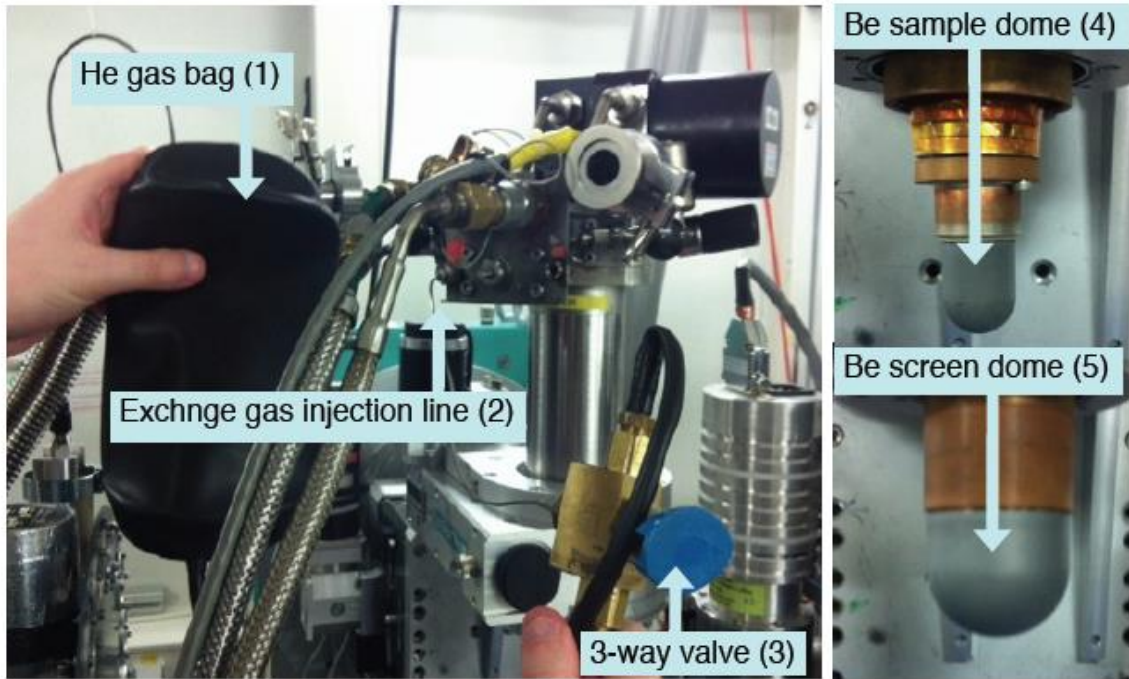

Fig.1 General picture of the displacer head connections.
In order to reach the lowest temperature, the sample must be surrounded by Be dome, which contains a He exchange gas. The Be dome in Fig.1(4) is sealed with indium wire (1.5 mm diameter) on the copper block. The exchange gas is injected using a He gas bag (Fig.1(1)), provided with a 3-way valve (Fig.1(3)), which allows the pumping and flushing of the exchange gas injection line (Fig.1(2)). Finally, a thermal screen dome (Fig.1(5)) is screwed on the displacer thermal screens.